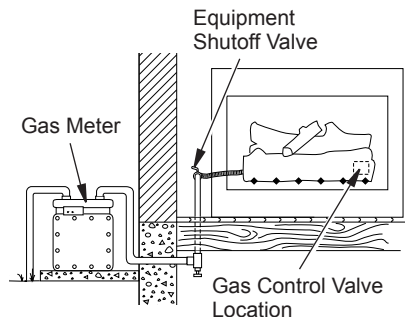

Figure 17 - Checking Gas Joints (Natural Gas Only)
1. Open equipment shutoff valve (see Figure 17, page 16).
3. Close equipment shutoff valve (see Figure 17, page 16).